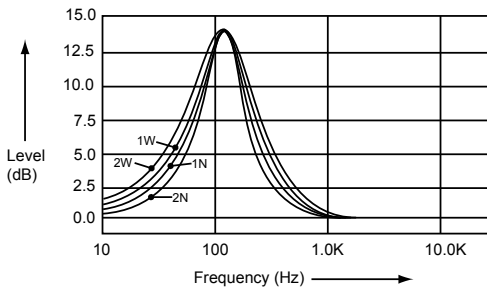

Figure 1
- **BASS-Q: (Bass Quality Factor):** User has 5 seconds to use the Volume Up or Down button to adjust the desired Bass Quality Factor to 2N, 1N, 1W or 2W. See Figure 1.